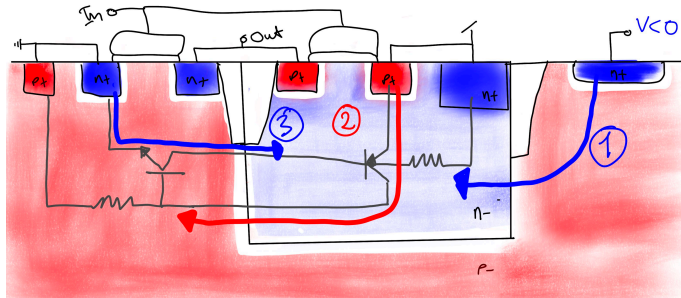

Figure 16: Cross section of an inverter including the parasitic bipolars
Consider the cross section of the inverter in Figure 16. The latch-up process starts with electron injection (1), then forward bias of PMOS source/drain junction (2), forward bias of NMOS source/drain junction (3), and finally positive feedback.